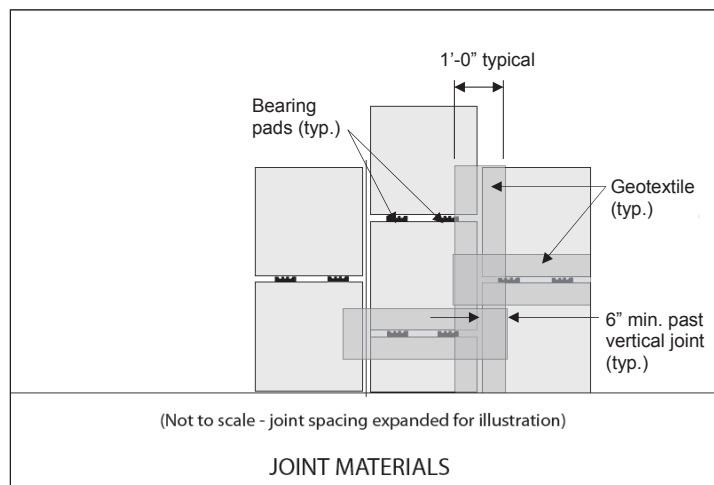

Figure 20
- Geotextile is affixed to the backfill side of both the vertical and the horizontal panel joints (Figure 20) using several dabs of a contact adhesive.